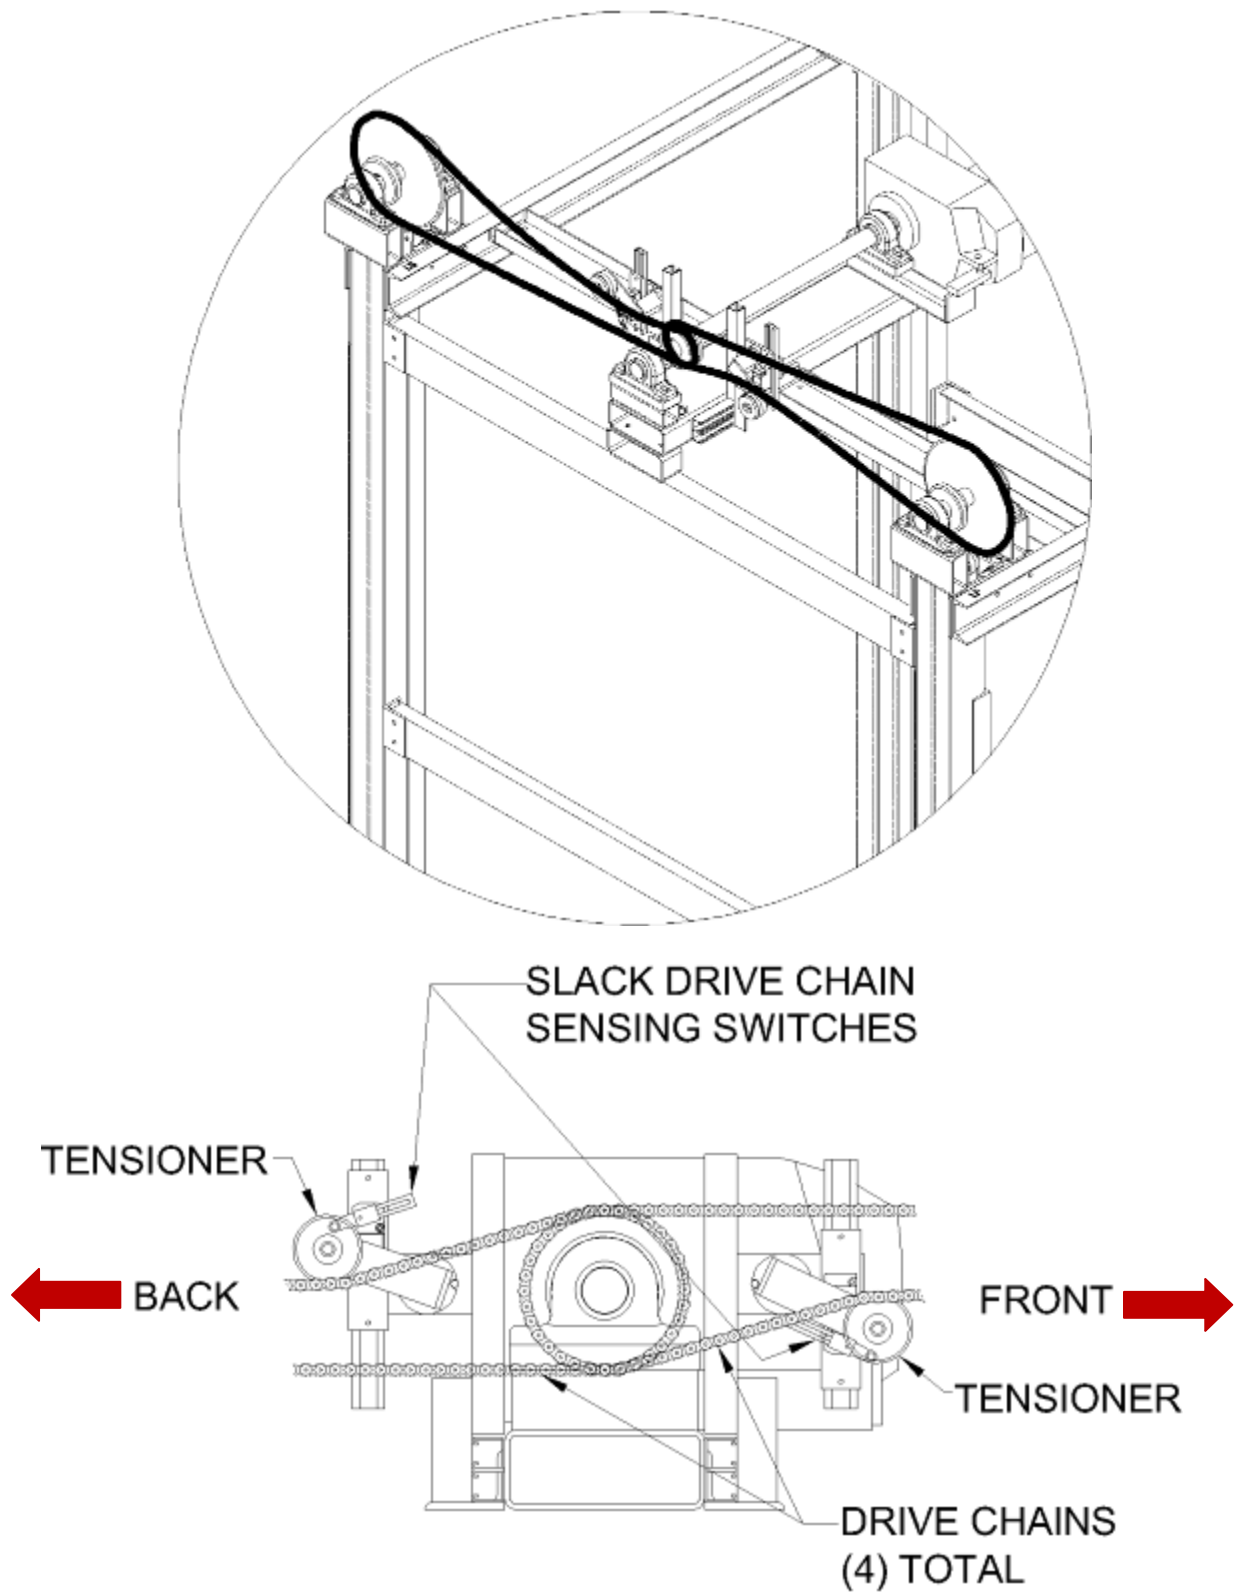
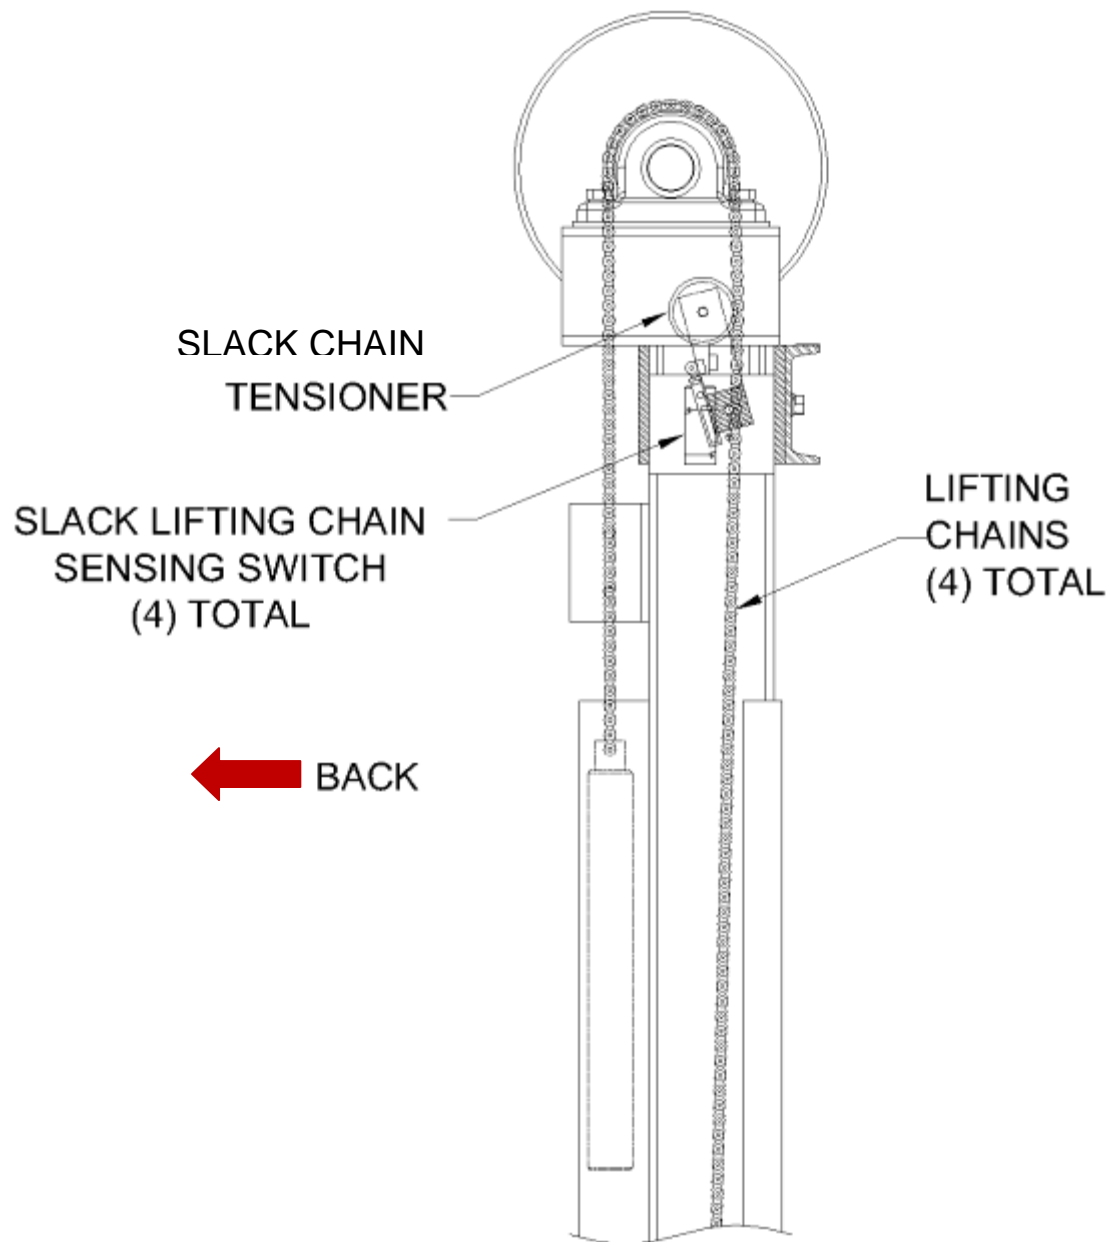

Figure 30 Drive Chain Path
Figure 31 Lifting Chain Path
H. INSTALL DRIVE CHAINS & LIFTING CHAINS (Reference Figures 30 to 33)
2. Install drive chains between the 17-tooth (approx.) double sprockets on the main drive shaft and the 48-tooth (approx.) sprocket on the top of each mast beam. Each drive chain should engage each drive chain tensioner as shown in **Figure 30**.
3. Find the four (4) equal lengths of lifting chain, lay out on a clean surface.
4. Raise each chain up to the drive base, lower one end of the chain down the mast beam to the carriage upright and wheel guides. Lay the other end up and over the sprocket on the top of each mast as shown in **Figure 31**.
10. When complete, the lifting chain path should look like that shown in **Figure 31**.